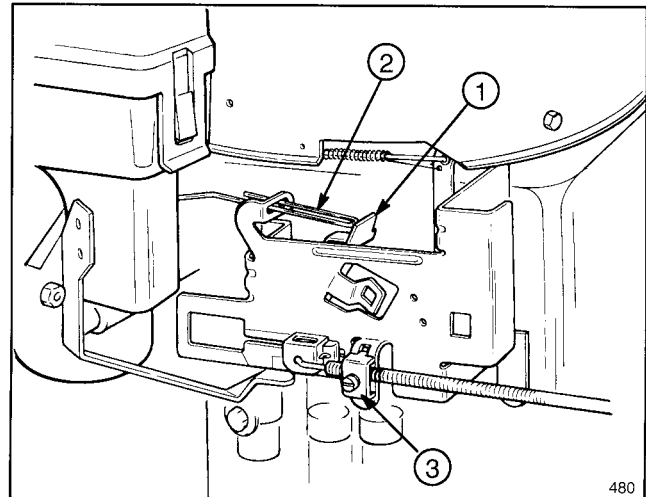

Figure 20
2. The throttle lever should be just touching the choke link (Fig. 20); if they are not in this position, an adjustment is necessary:
- B. Loosen the throttle cable clamp screw (Fig. 20) and move the control cable casing and wire until the throttle lever touches choke link.